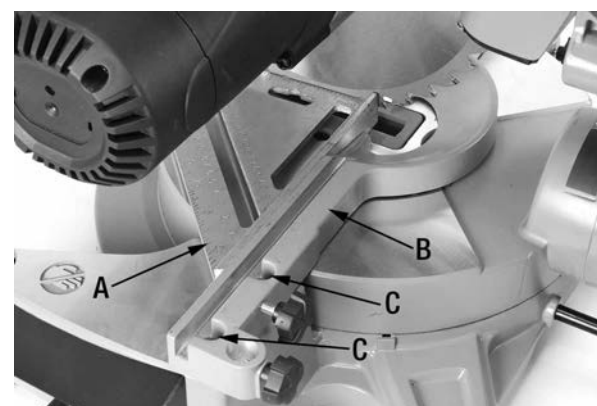

FIGURE 13
7. Place a square (A) Fig.13 against the fence (B) and the flat part of the blade.
10. Loosen the rear fence extension lock knobs and remove fence extensions by sliding them off the fence. Loosen the now exposed fence cap screws (C) Fig.13 on both sides and position the fence (B) against the square and retighten all cap screws.